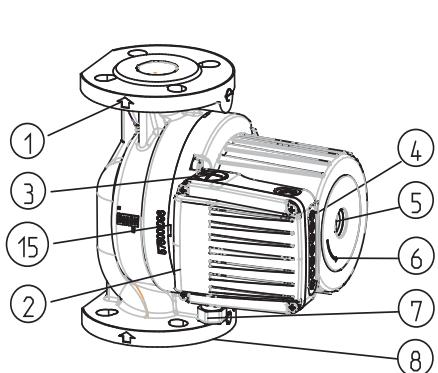
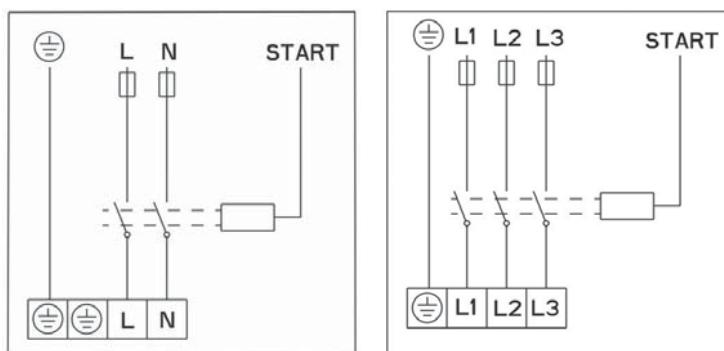

Fig.2
Fig. 4
- Direction of water flow through the pump should match with direction, indicated by an arrow on the pump casing (Fig.2-POS.1).
- The connecting flanges are designed for nominal pressure NP 6/10 (Fig.2 – POS.8).
- SCRF pumps have a single hydraulic casing (Fig.2– POS.8).
The hydraulic casing of the pump can be insulated only to the cleft between the motor and the hydraulic casing. Openings for condensate drainage should remain uncovered and enable the drainage from the stator housing. Similarly, the same openings must be uncovered also in heating systems, when only thermal insulation of hydraulic casing is implemented (Fig. 2, 3, POS. 15). Electric motor casing, on which the openings for condensate drainage are located, under no condition should not be insulated!
The connecting wire has to be connected over a cable entry M20 (Fig.2 – POS.7).
Electrical connections of the pump must be carried out in accordance with the wiring diagram (Fig. 4), attached on the bottom of motor cover. Before doing that unwind the upper cover (Fig. 2 - POS. 2).
In the pumps of types SCRF-SCRFD-SCFRED, the rotor is submerged and provided with special water-lubricated bearings. Before putting the pump into operation, it has to be filled with water and deaerated. Deaerate the pump by unscrewing a screw on the back side of the electric motor (Fig.2-POS.5). Air will flow out through the cleft between the motor shaft and the bearing. When water starts to flow out, close the valves at both the suction and pressure side of the pump. Start the pump and check the direction of shaft rotation. In case of a wrong direction a built-in flash lamp will start to blink with red light.
Each pump is able to cover the areas of three hydraulic characteristics. To achieve this, it has an inbuilt electric motor with three different revolution speeds. For achieving the selected characteristics or speeds ① ② ③, the pump has a push button ▷ (Fig.2-POS. 4), with which we change speeds.
Switch off the pump, close the valve on both pressure and suction sides of the pump, unscrew the vent for deaeration, place the screwdriver (Fig.2-POS.5) in the notch on the shaft and twist as long as friction forces allow. Then screw the vent for deaeration.